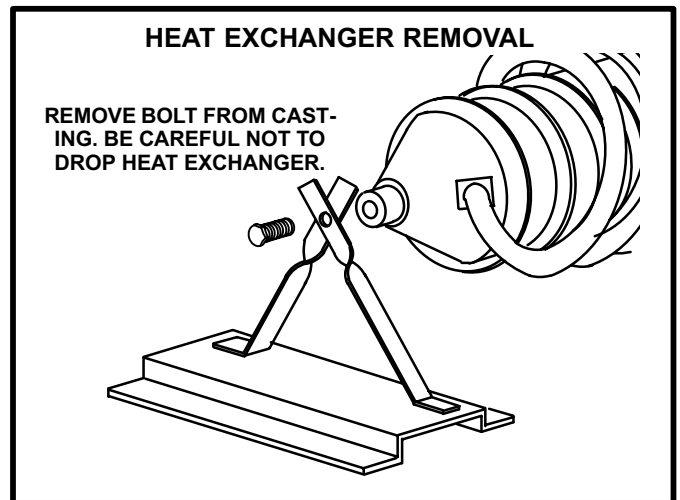

FIGURE 34
- 4-Remove bolt in back of casting (see figure 34).